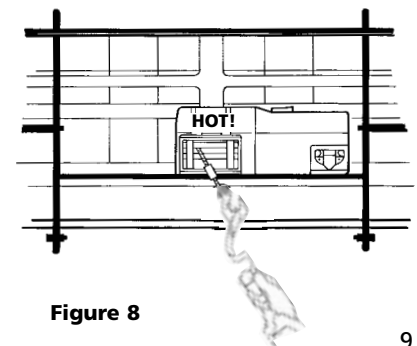

Figure 8
- WARNING** *The drum and wire rope may get very hot (Figure 8).*